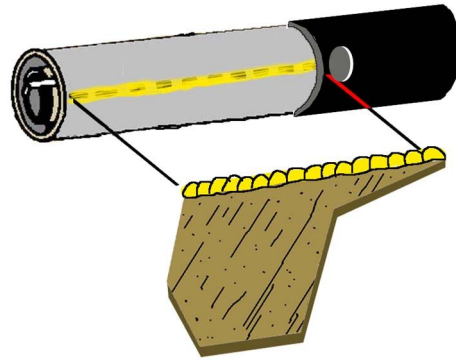

Fig. 11
- **Step 14** Attach the booster fins to the ST-73 body tube using the same method from Step 12. As shown in Fig. 11, the leading edge tip of each fin should just touch the back edge of the coupler, and the trailing edge at the fin root should be even with the back edge of the tube. Allow each fin to dry completely before proceeding with the next fin.